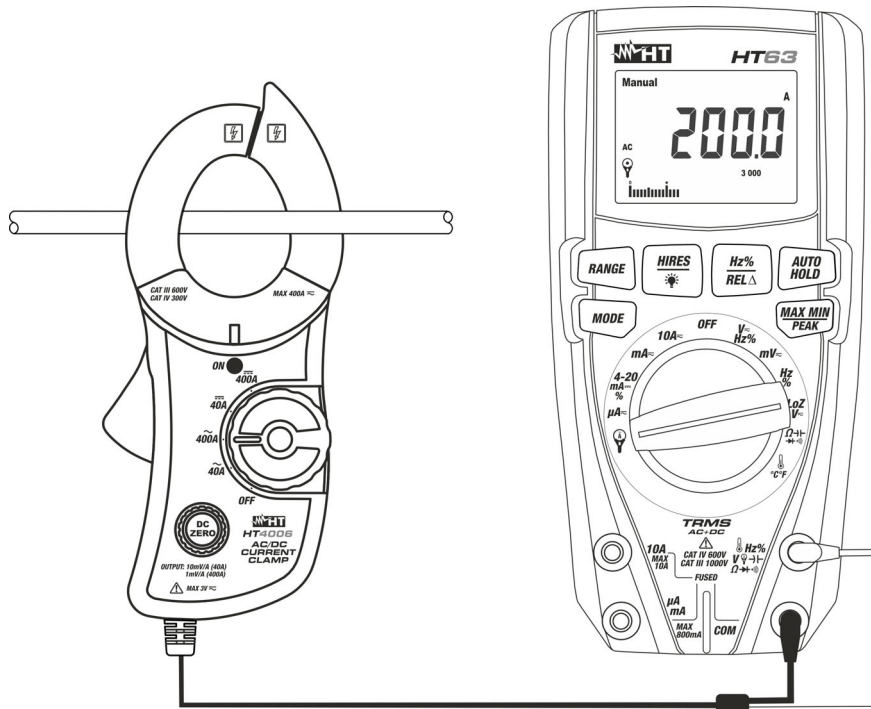

Fig. 2: Use of the instrument for measuring AC/DC current in combination with HT63
- Open the jaws and insert the phase cable in the middle of it (see Fig. 2). **For DC current measurement** consider the arrow on the top part (see Fig. 1 – part 9) which indicate the positive direction of the current. The display of the multimeter shows the value of current **expressed in A**.